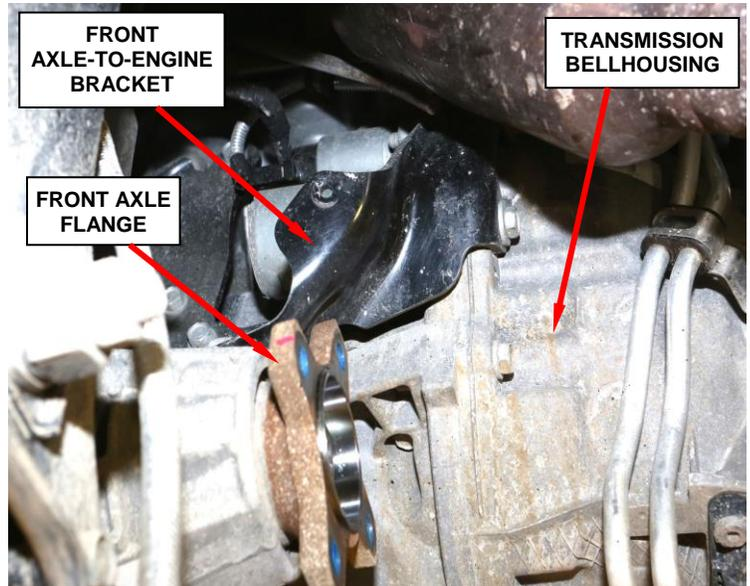

Figure 5 – Front Axle-to-Engine Bracket
15. Remove and save the front axle-to-engine bracket (Figure 5).
35. Install the front axle-to-engine bracket (Figure 5). Tighten the bolts to 48 ft. lbs. (65 N·m).